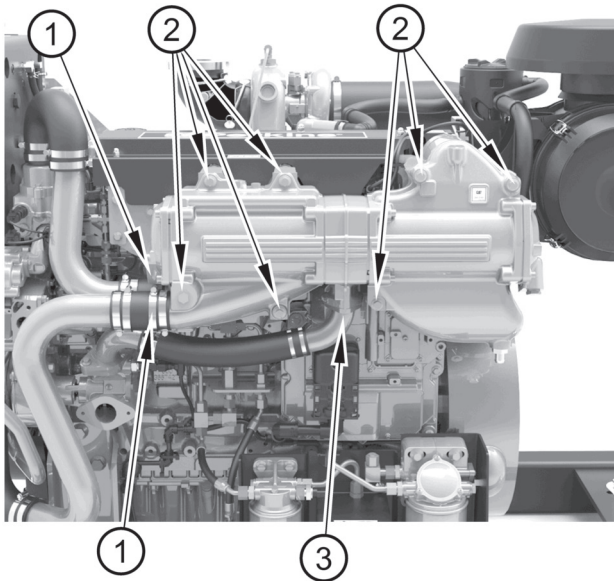
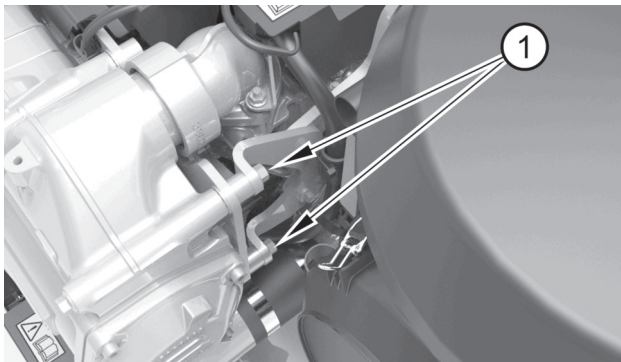

Figure 18
Figure 19
2. Slacken the hose clips (figure 18 item 1).
3. Remove bolts (item 3) and remove hose assembly.
4. Remove bolts (item 2).
5. Remove the bolts that secure the assembly at the rear (figure 19 item 1).